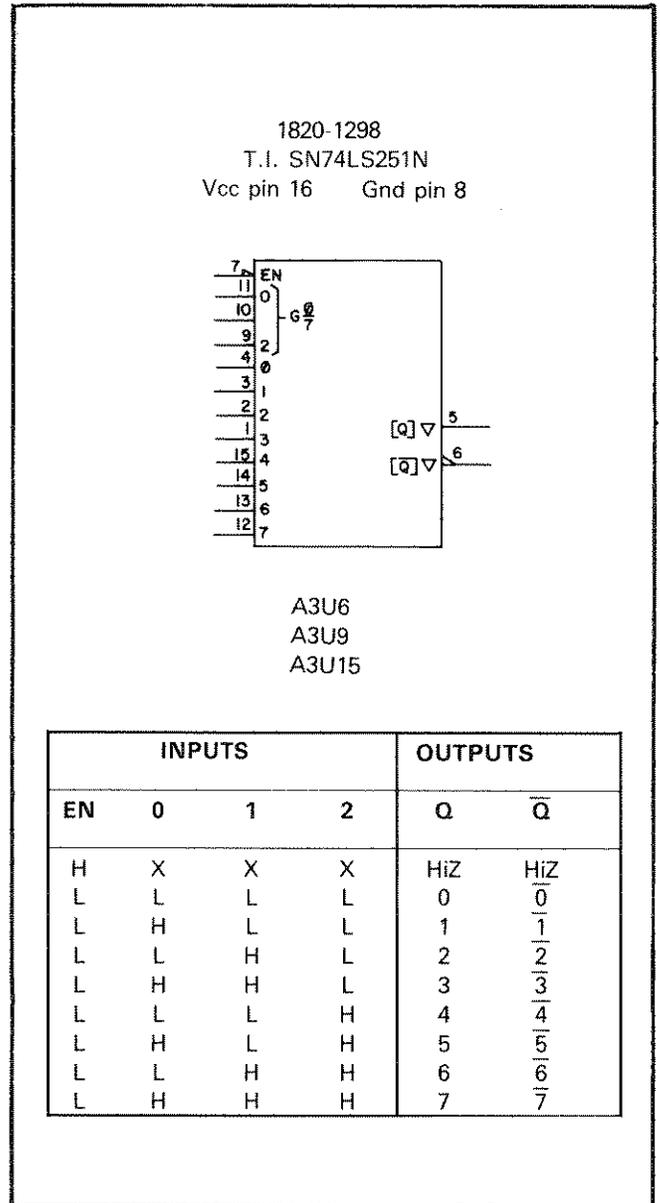

Figure B-22. Data Selector/Multiplexer
**Data Selector/Multiplexer.** Figure B-22 shows a data selector/multiplexer. The three input lines that comprise G determine which of the eight data input lines is connected to the complementary outputs.